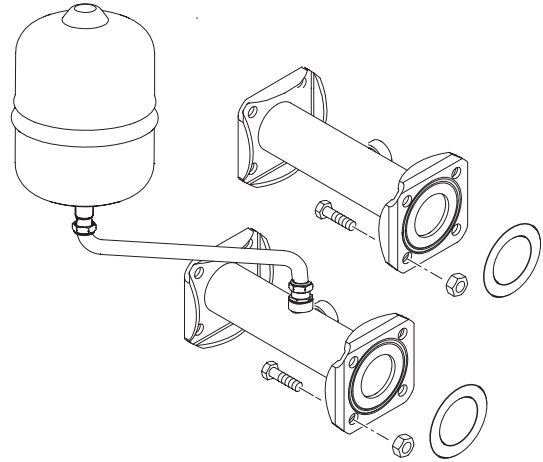

Fig. 6
1.10 LOW LOSS HEADER CONNECTION KIT code 8101535 (order separately) (fig. 6)